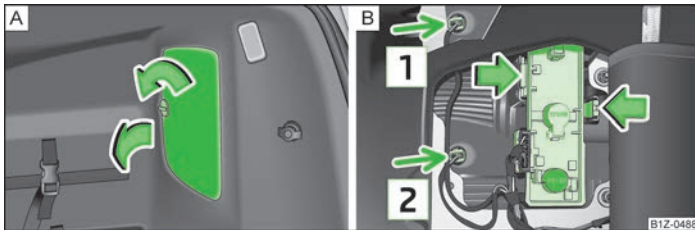

Fig. 168 Boot: Cover of the lamp holder/removing the lamp holder
- > Unlock the cover of the lamp holder, open » Fig. 168 - [A].
- > Press the catches in the direction of the arrow and remove the lamp holder » Fig. 168 - [B].